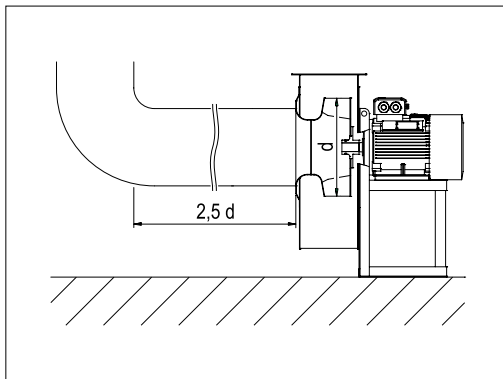
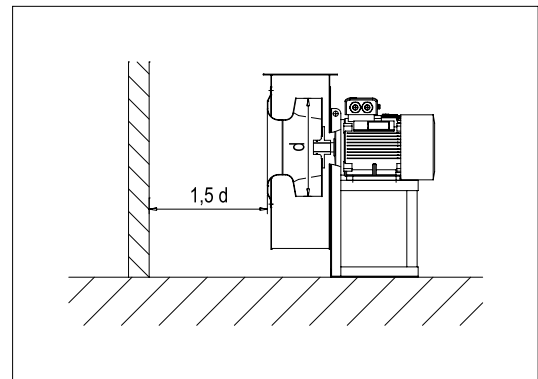

FIG. 14 (Piping connection)
FIG. 15 (Free suction)
5.3.1- Positioning (FIG. 14 and FIG. 15)